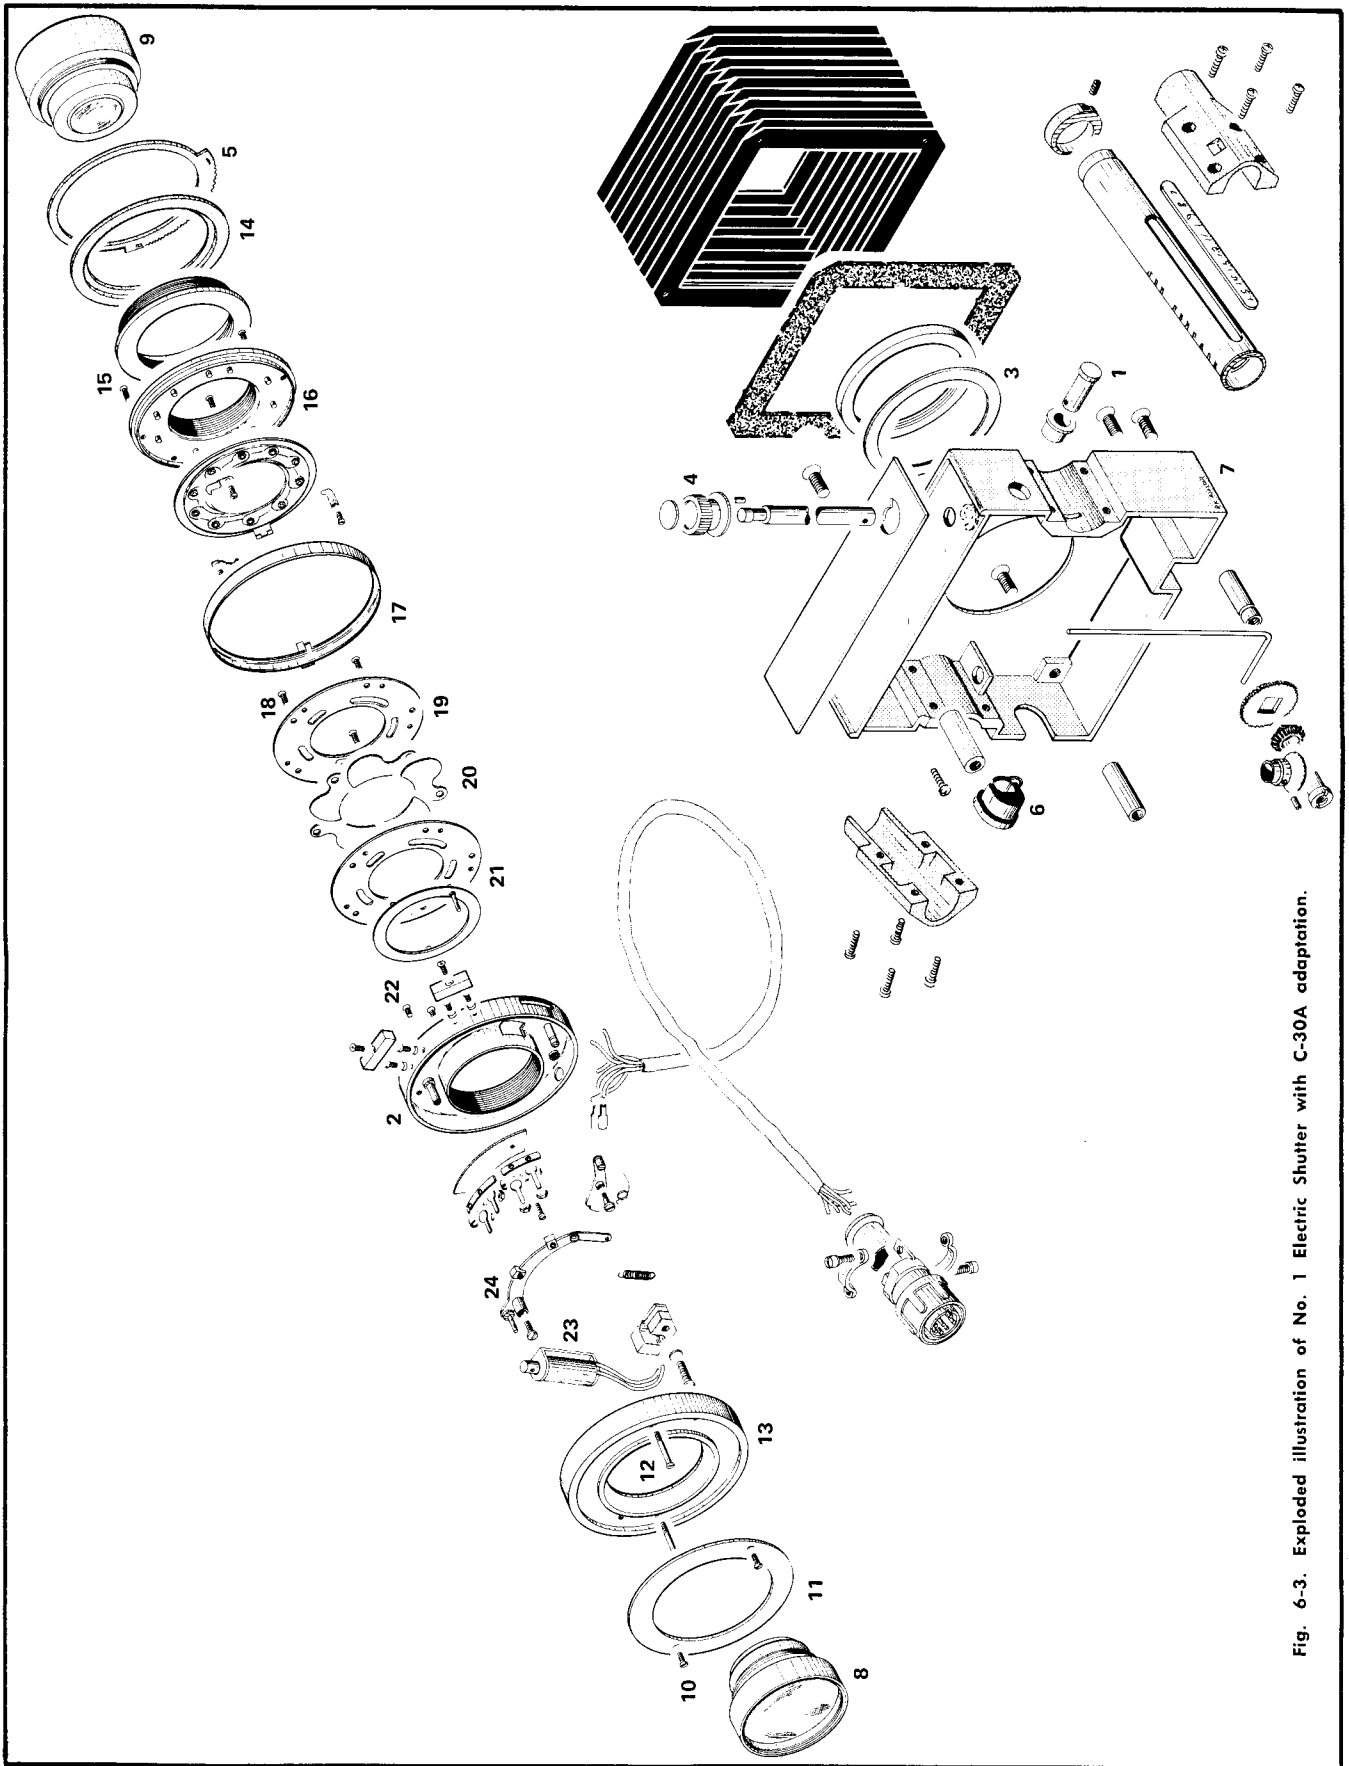

Fig. 6-3. Exploded illustration of No. 1 Electric Shutter with C-30A adaptation.
h. Press the MAG Index button and slide the shutter housing as far as possible toward the rear of the camera, see Fig. 6-3, item 1 and Fig. 6-2, item 10.
i. Grasp the shutter case and remove the lens retainer nut by reaching in through the rear of the camera with a spanner wrench, Tektronix Part No. 003-0627-00, see Fig. 6-3, items 2 and 3.
j. Before removing shutter case from shutter housing, the spur gear and knob positions should be noted to aid in reassembly, see Fig. 6-3, items 4 and 5.
k. Release the strain relief bushing from the shutter housing by squeezing it together and removing from the shutter housing at the same time, see Fig. 6-3, items 6 and 7.
l. Remove the shutter case from the shutter housing, see Fig. 6-3, items 2 and 7.
m. Remove the front and rear lens assemblies from the shutter case, see Fig. 6-3, items 8 and 9.
- b. Remove two small screws from faceplate on the shutter and remove the faceplate, see Fig. 6-3, items 10 and 11.
- c. Remove two screws from shutter cover and remove the shutter cover, see Fig. 6-3, items 12 and 13.
- b. Remove shutter case alignment washer, see Fig. 6-3, item 14.
- c. Remove three screws from back case cover and remove the back case cover, see Fig. 6-3, items 15 and 16.
- d. Remove iris ring assembly, see Fig. 6-3, item 17.
- e. Remove three screws from blade plate on the rear of the case assembly and remove blade plate, see Fig. 6-3, items 18, 19 and 2.
- f. Remove shutter blades and ring plate, see Fig. 6-3, items 20 and 21.
- g. Remove the two screws (from the rear of the case assembly) which hold the solenoid in place, see Fig. 6-3, item 22.
- h. Carefully lift the solenoid from the front of the master plate, taking care not to bend the drive lever assembly pin, see Fig. 6-3, items 23 and 24.